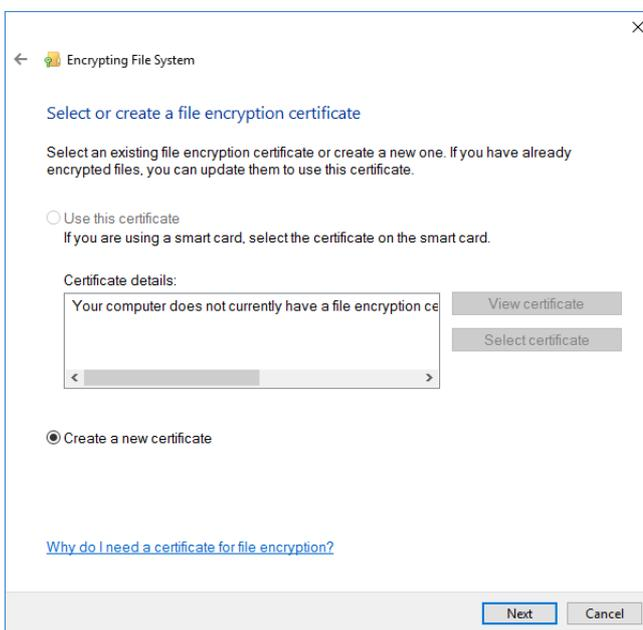

Figure 2-25. Selecting to create a new certificate
4. Select **Create a new certificate** and click **Next**, see Figure 2-25.